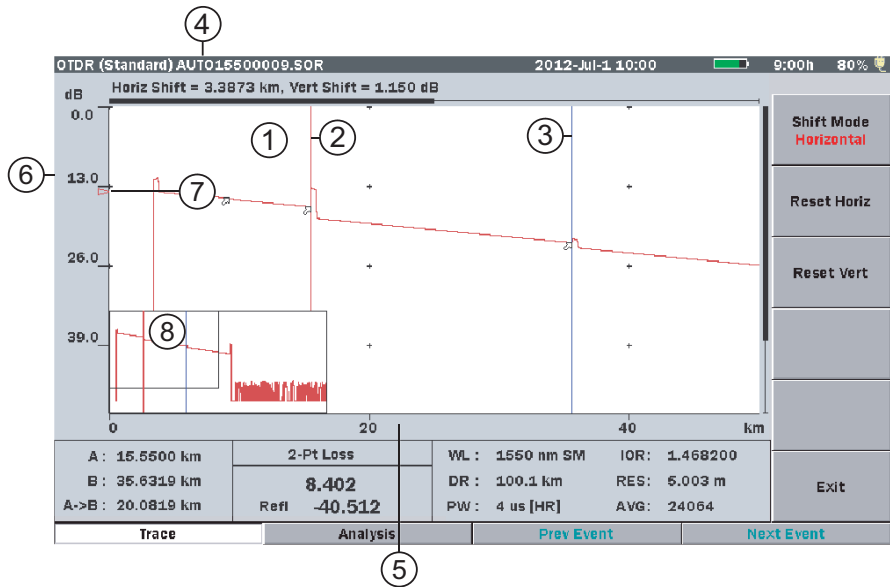

Figure 4-11: Trace Graph – OTDR (Standard) Mode
The Trace Waveform (or Trace) is the downward sloping line going from left to right that connects the data points collected during a test. See item 1 in Figure 4-11.
The cursors (see items 2 and 3 in Figure 4-11 on page 4-33) are the two vertical lines that extend from the top to the bottom of the trace graph. The cursors allow you to extract power and distance information from the trace graph. The active cursor is displayed in red and the inactive cursor is displayed in blue.
These values (see item 4 Figure 4-11 on page 4-33) are only displayed when some type of shift is in use.
The vertical axis scale (see item 6 in Figure 4-11 on page 4-33) is located on the left side of the trace graph and is expressed in dBs, while the horizontal axis scale (see item 5 in Figure 4-11) is located at the bottom of the trace graph and is expressed in the distance unit as set on the Preferences screen. See “Distance display Units” on page 4-4 for details.
The dB level indicator (see item 7 in Figure 4-11 on page 4-33) denotes the intersection of the active cursor and the trace level.